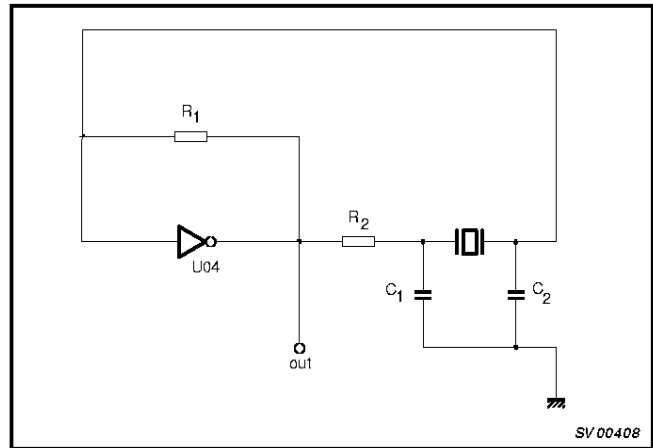

Figure 8. Crystal oscillator configuration.
- In crystal oscillator designs (see Figure 8)
Note to Figure 8